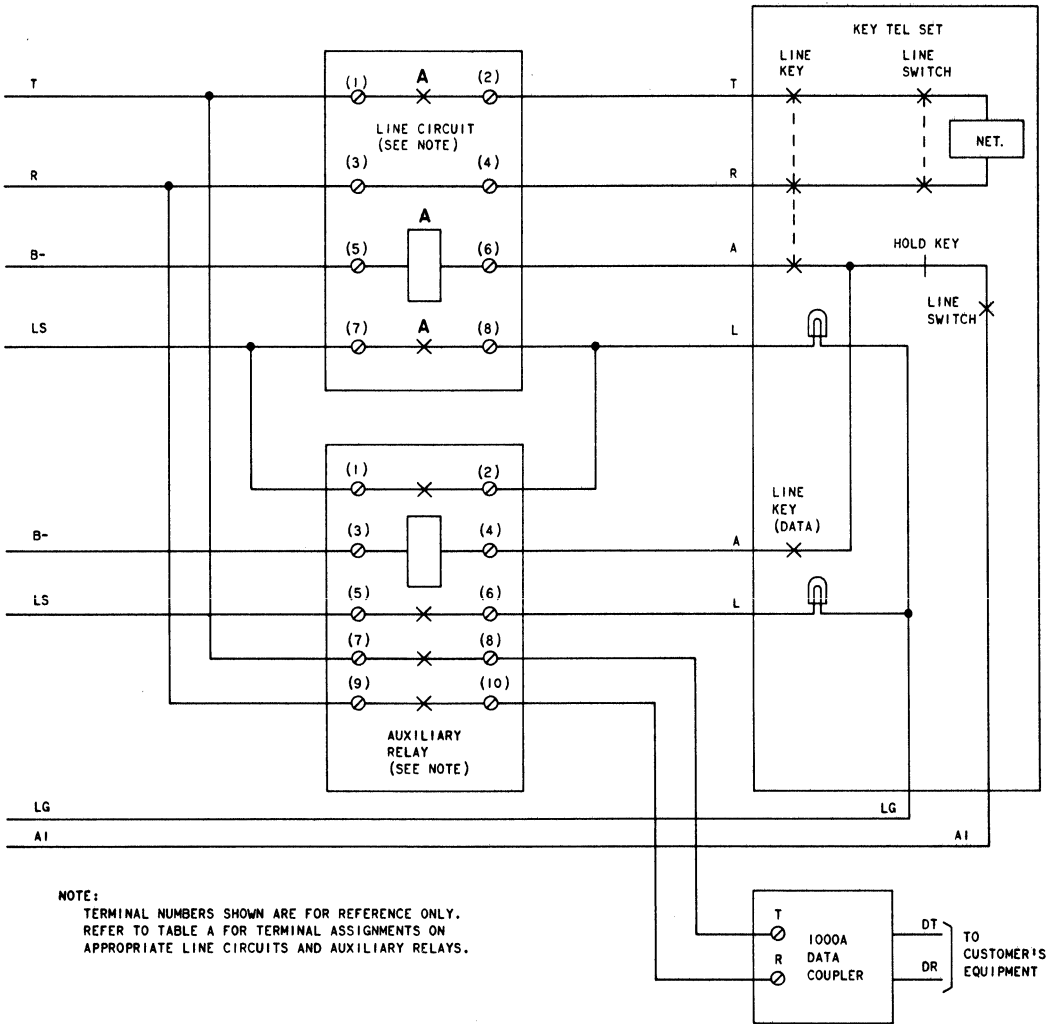

Fig. 7—Partial Schematic Connections for Key Telephone System Arrangements
3.10 For key telephone system application, an auxiliary relay is required to switch the line to the coupler. A line key on a key telephone set is used as the data key to operate and hold the auxiliary relay. The telephone handset must be off-hook during a data call. A partial schematic of a typical key telephone arrangement is shown in Fig. 7. Use Table A with Fig. 7 for the required connections to the key telephone units that may be used as line circuits and auxiliary relays for a key telephone system.
Note: The 1A telephone set wiring will differ from that shown in Fig. 7. The SG lead